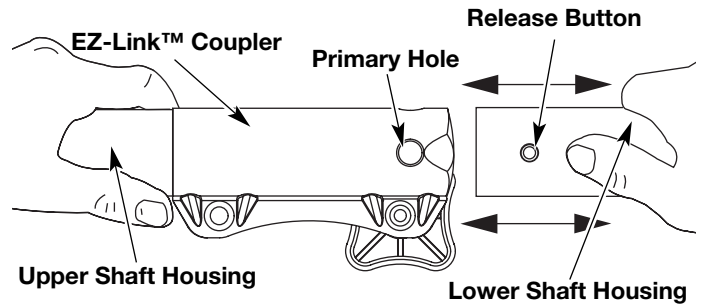

Fig. 10
2. While firmly holding the add-on, push it straight into the EZ-Link™ coupler (Fig. 10).
<p>CAUTION: Lock the release button in the primary hole (Fig. 10) and securely tighten the knob before operating this unit.</p>
3. While firmly holding the upper shaft housing, pull the cutting attachment or add-on straight out of the EZ-Link™ coupler (Fig. 10).